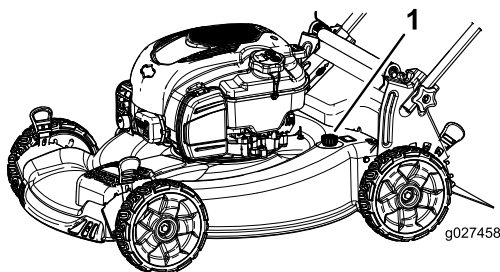

Figure 21
5. Attach a garden hose that is connected to a water supply to the washout port (Figure 21).